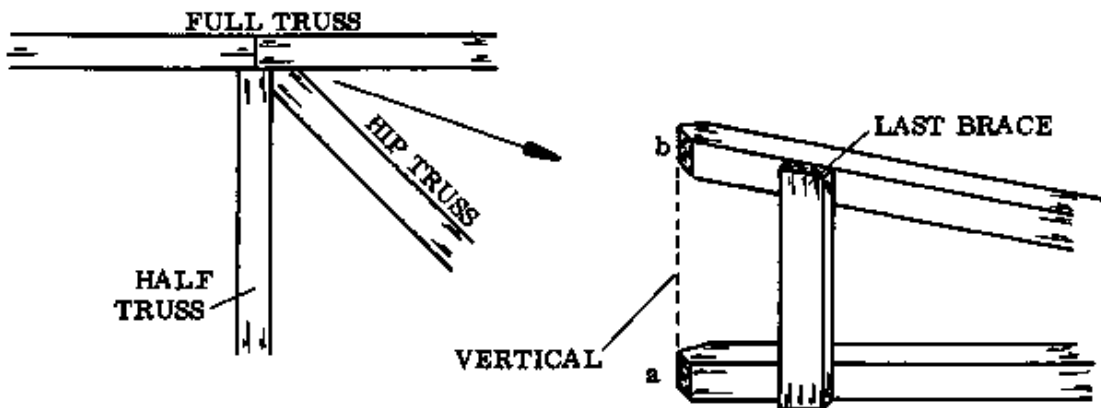

Fig. 4
h. Cut the ends of the rafter and tie beam (ends a and b) at a 45 degree angle, as shown in Fig. 4.